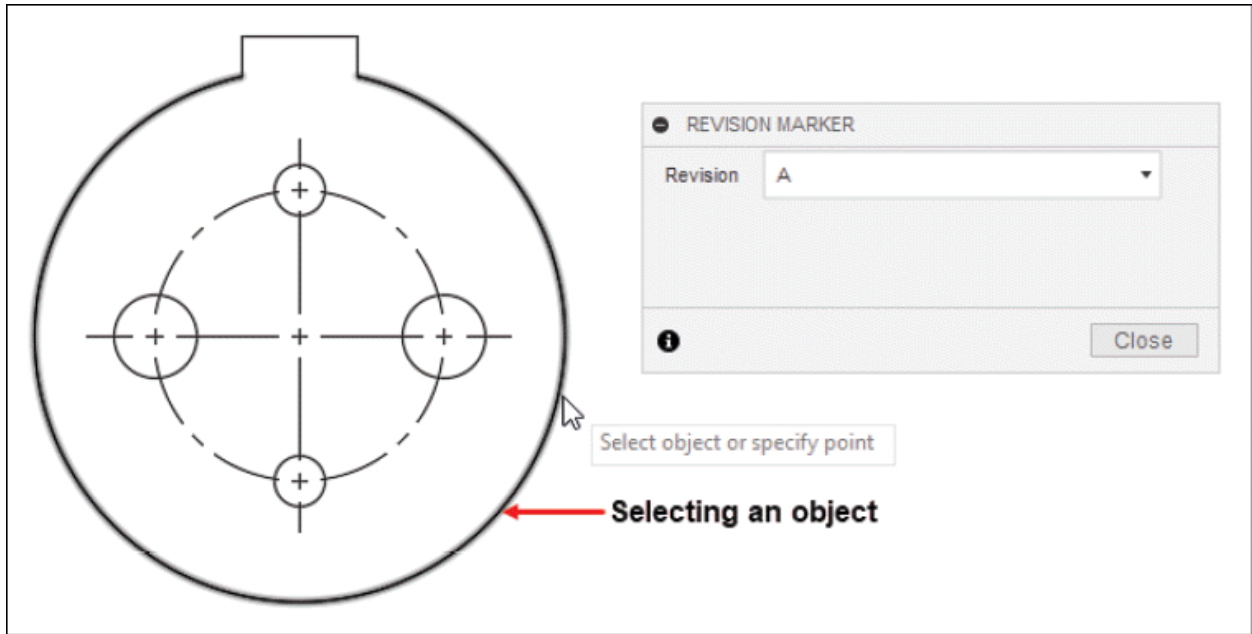

Figure-120. Selecting an object
- Select an object or specify a point to place the revision marker; refer to Figure-120.